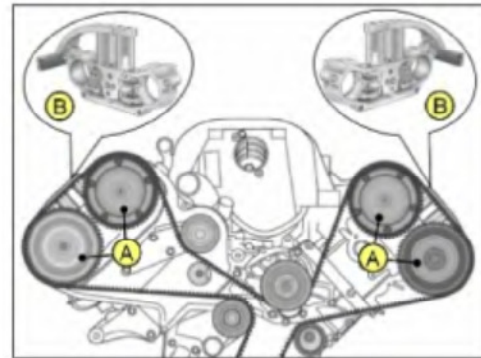

Figure 1. The camshaft adjusters (A) and camshaft adjustment housings (B).
1. Do not replace the camshaft adjusters (Figure 1, A) or camshaft adjustment housings (Figure 1, B) because of these DTCs.
- a. Do not replace the camshaft adjusters (Figure 1, A) or camshaft adjustment housings (Figure 1, B)